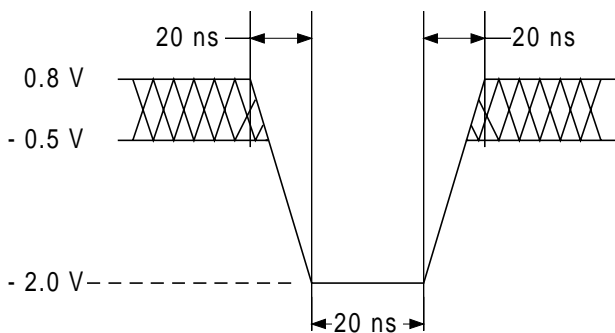
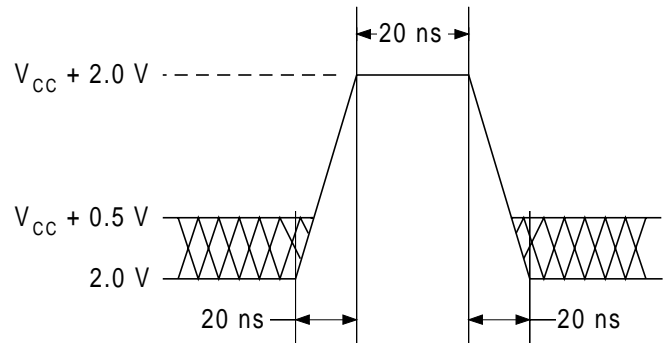

Figure 11. Maximum Undershoot Waveform
Figure 12. Maximum Overshoot Waveform
1. Minimum DC voltage on input or I/O pins is -0.5 V. During voltage transitions, input or I/O pins may undershoot V_{SS} to -2.0V for periods of up to 20 ns. See Figure 11. Maximum DC voltage on input or I/O pins is V_{CC} + 0.5 V. During voltage transitions, input or I/O pins may overshoot to V_{CC} + 2.0 V for periods up to 20 ns. See Figure 12.
2. Minimum DC input voltage on pins A[9], WP#/ACC, OE#, and RESET# is -0.5 V. During voltage transitions, A[9], WP#/ACC, OE#, and RESET# may undershoot V_{SS} to -2.0 V for periods of up to 20 ns. See Figure 11. Maximum DC input voltage on pins A[9], WP#/ACC, OE# and RESET# is +12.5 V which may overshoot to 14.0 V for periods up to 20 ns.